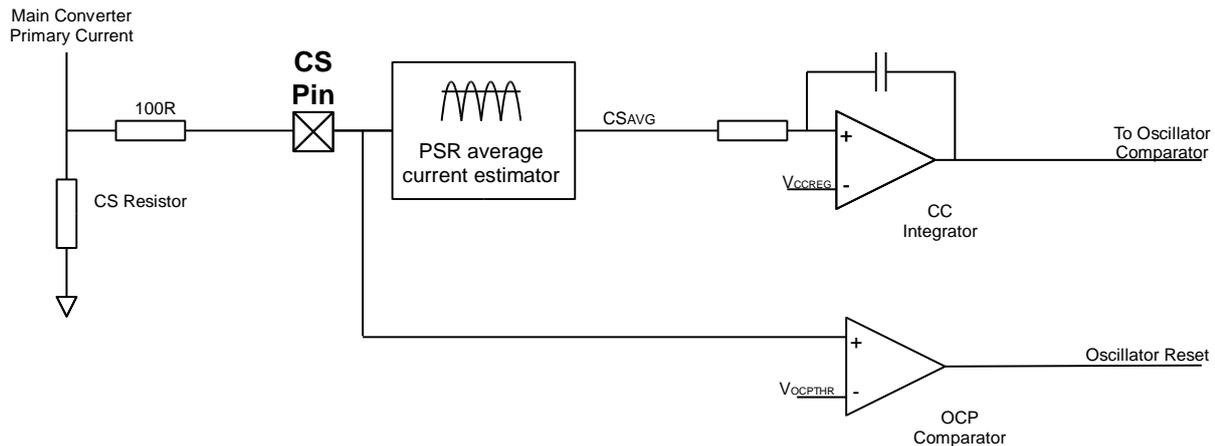

Figure 7: RED2501 Current protection and control circuits
Figure 7 shows the two current control methods used in the converter:
Shown in figure 7 the signal from the CS pin is divided into two different paths. The bottom path provides peak instantaneous over-current protection (OCP) while the PSR Average Current estimation block provides the current regulation (CC) information. The voltage on the CS pin is an AC signal biased around GND. Inside the PSR block this signal is processed to provide a voltage proportional to the average converter output current.
The CC regulation circuit is shown in Figure 7. CC operation is defined by an internally compensated control loop. This provides a system response time of approximately 300us in a typical application. The average current regulation point,  $V_{CCREG}$  is pre-set to 150 mV, referred to the CS pin.